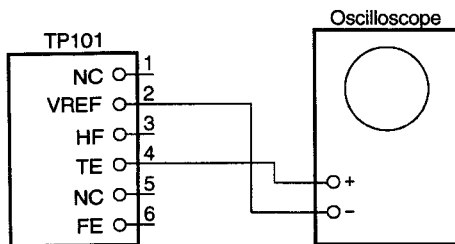

Fig1
6. Turn SELECT knob clockwise again. The display shows " 0 2 " and "TR Signal". At this mode, tracking error signal can be observed with connection below (Fig1). To start measuring, press the SELECT knob.